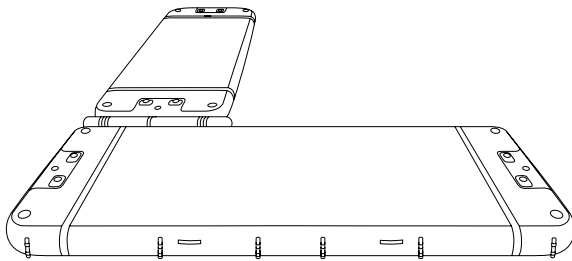
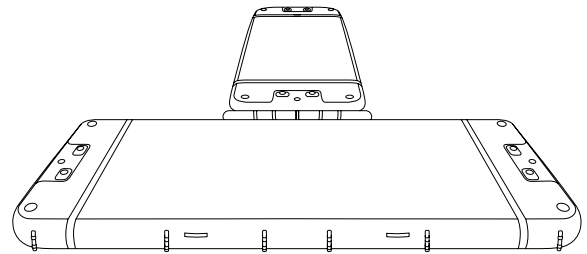
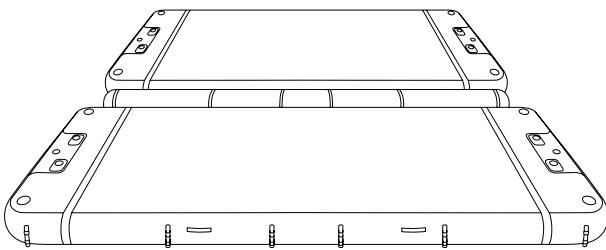
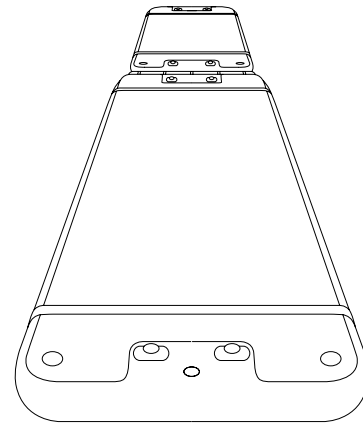

Fig 45 - L-shape
Fig 46 - T-Shape
Fig 47 - Side-by-side
Fig 48 - End-to-end
Due to the unique Air Toggle connection system, multiple Platforms can be connected together in several useful configurations L-shape (Fig 45), T-shape (Fig 46), side-by-side (Fig 47) or end-to-end (Fig 48).
1. Start by choosing which joining configuration you're going to use Fig 45, Fig 46, Fig 47 or Fig 48.
These steps describe how to configure two platforms which are connected end-to-end (Fig 48 on page 27).
These steps describe how to configure two platforms which are connected in a T-shape. Ideal for a Jet-Ski dock (Fig 46 on page 27).
These steps describe how to configure two platforms which are connected in a L-shape (Fig 45 on page 27).